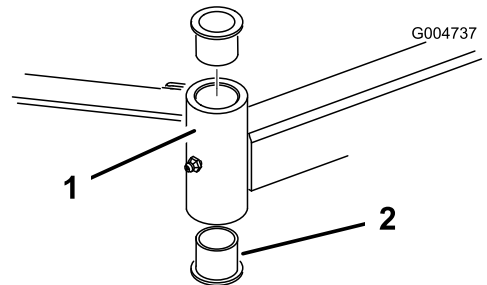

Figure 25
4. Insert a pin punch into the top or bottom of the mounting tube and drive the bushing out of the tube (Figure 25).